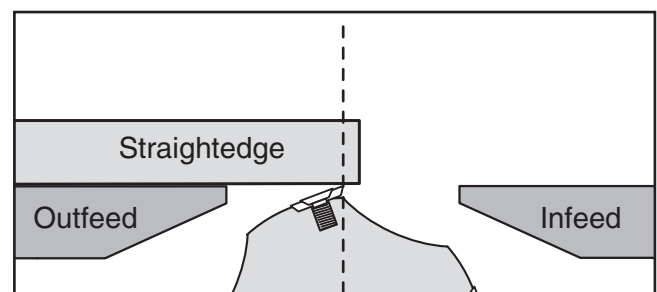

Figure 57. Using straightedge to align outfeed table height with carbide insert at TDC.
- Raise or lower outfeed table until carbide insert just touches straightedge (see **Figure 57**).